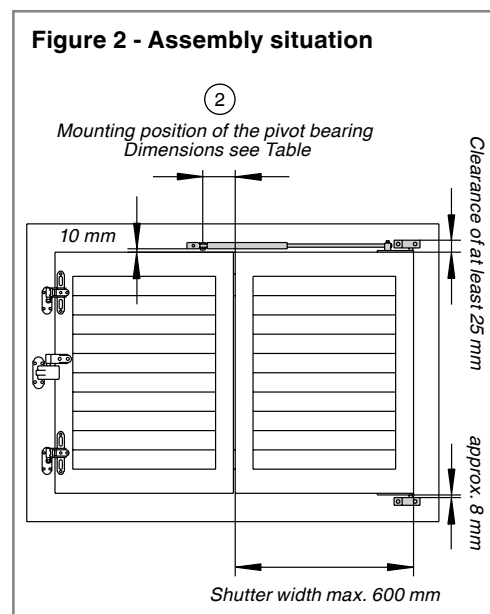

Figure 2 - Assembly situation
- Mount the pivot bearing on the frame (Fig. 2, see table for assembly position!).